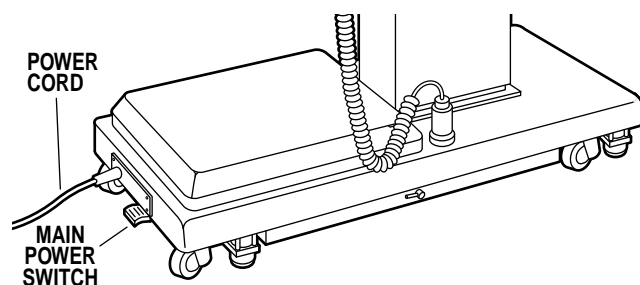

Figure 2-1. Main Power Switch
b. Depress Main Power ON/OFF switch on the electrical enclosure. See figure 2-1. The green Power ON indicator light on the pendant control unit should now be illuminated.